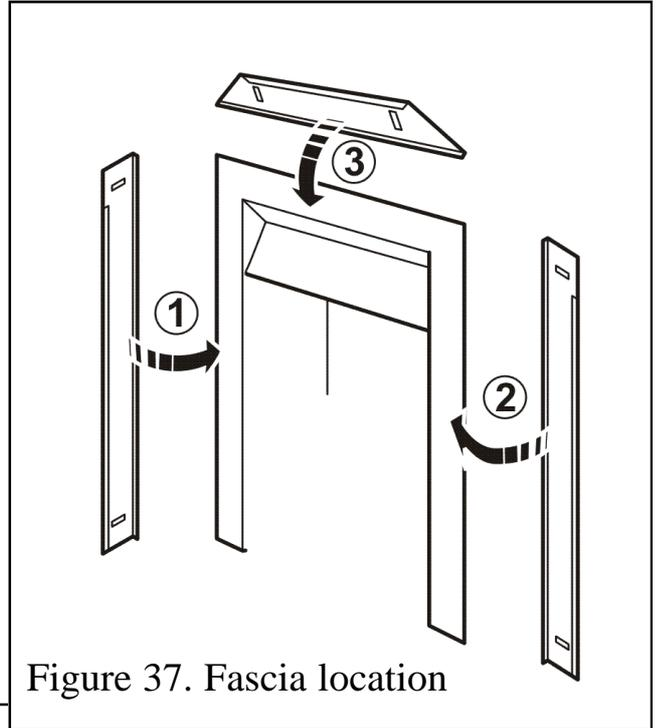

Figure 37. Fascia location
3. Locate the side fascia trims as in figure 37.
4. Locate the top fascia trim as in figure 37.